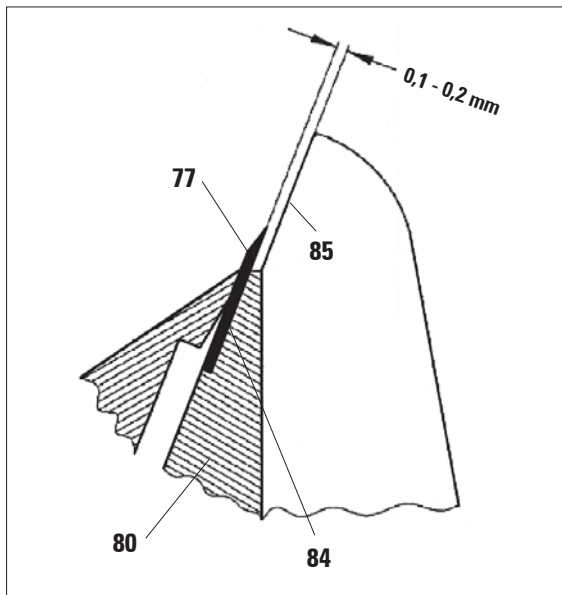

Fig. 30
- Fold knife guard (5) downward.
- Rotate the blade clamping lever (89) downward.
- Pull out clamping lever (89) sideways.
- Remove pressure plate (86).
- When reassembling, ensure that the upper edge of pressure plate (86) is parallel to and at the same height as the upper edge of the rear pressure plate (80) (sde Fig. 30, page 31).